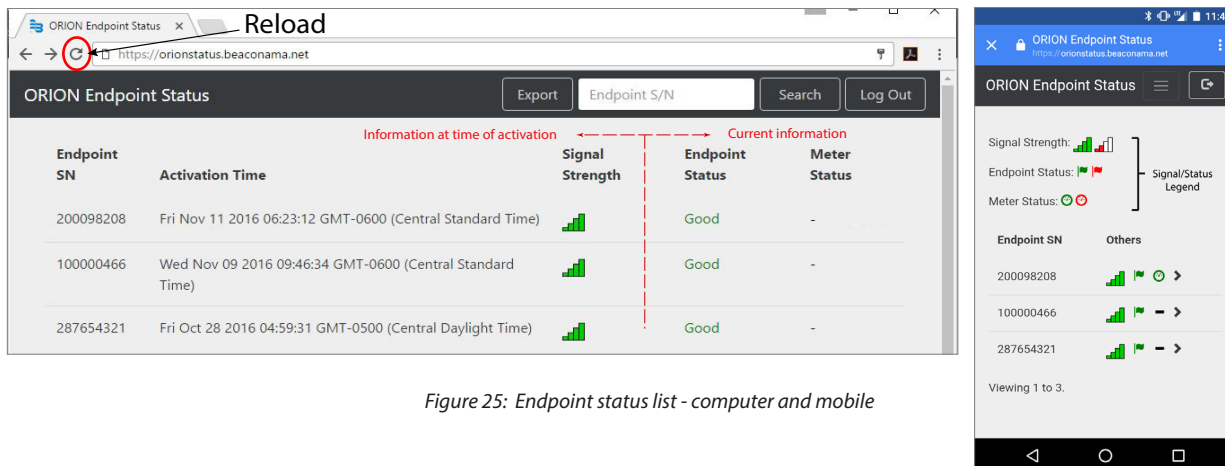

Figure 25: Endpoint status list - computer and mobile
*Result: The ORION Endpoint Status screen (Figure 25) opens showing the list of activated Cellular endpoints.*